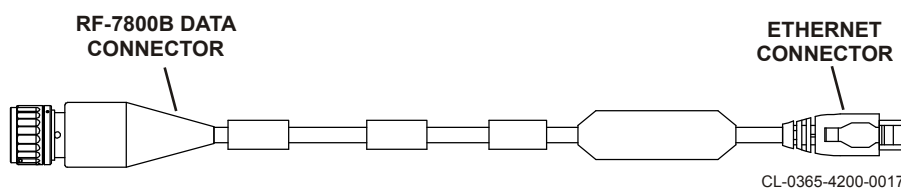

Figure 3-3. BGAN Ethernet Cable, 12043-0833-A010
- See Figure 3-3 for BGAN Ethernet Cable, 12043-0833-A010 (supplied with BGAN terminal).